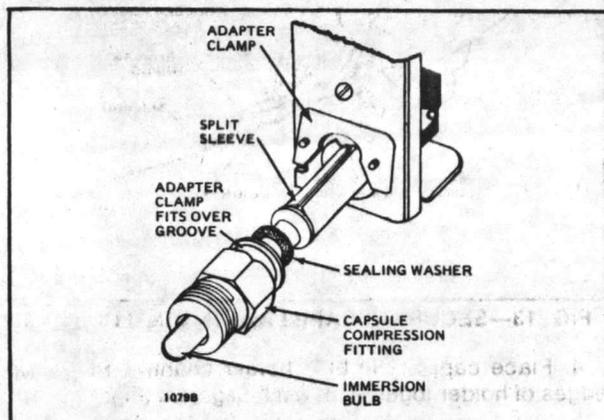

FIG. 7—DIRECT IMMERSION MODEL WITH FITTING PARTIALLY REMOVED.
1. Be sure sealing washer is in place as shown in Fig. 7. Make sure that spud of capsule compression fitting is screwed in tightly enough to prevent leaking.